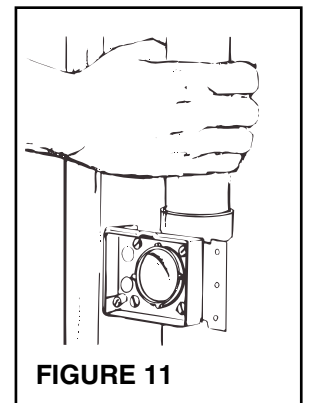

FIGURE 11
7. **Refer to Figure 11.** Insert tubing into fitting with a twisting motion to evenly spread cement. Be sure tubing is firmly seated in fitting.